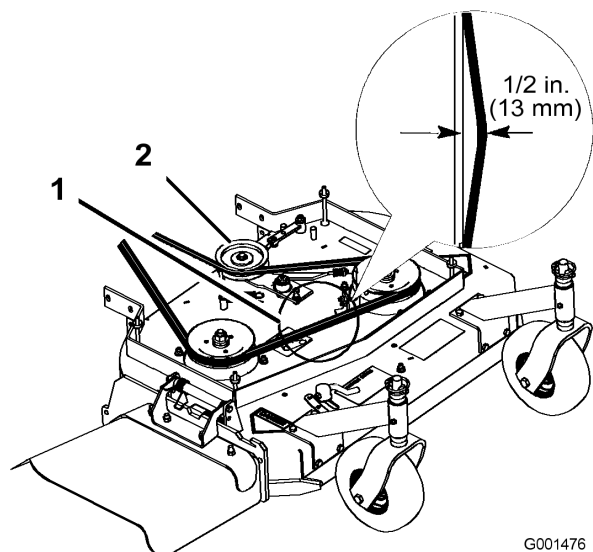

Figure 32
4. Remove the idler pulley and the worn belt (Figure 32).
Note: The proper mower belt tension is 10-15 lbf. (44-67 N) with the belt deflected 1/2 inch (13 mm) halfway between the pulleys (Figure 32).